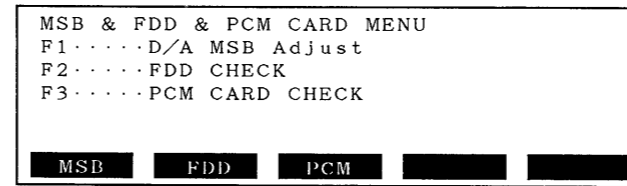

Fig. 3
- [F2] (MSB Adj & FDD & PCM CARD CHECK) Fig. 3